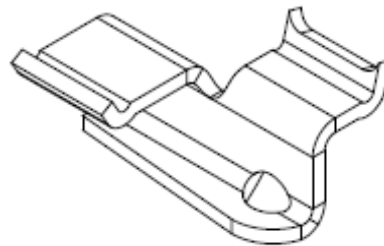

FIGURE 5 – TIGERCLAW TC-G FASTENER
5.5 Grooved deck boards may be fastened using TigerClaw TC-G hidden fasteners. Two fasteners are required at each support. The outer edge of the first and last deck boards shall be fastened to each joist with one 2.5 inch long FastenMaster Trim Top™ Stainless Steel Coated Trim Screw. See Figure 5.